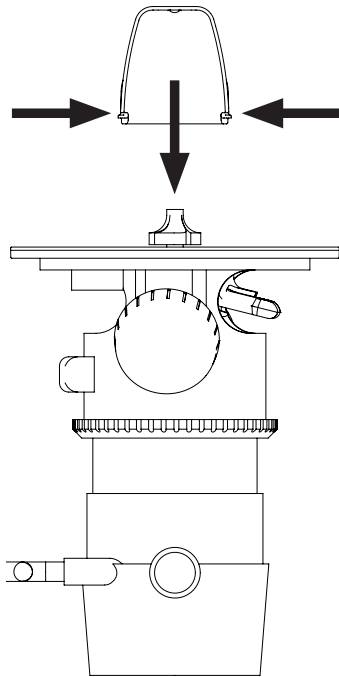

Fig. 5
- To apply the chip cover, squeeze the sides, and fit the groove of the chip cover inside the cavity at the inside rim of the base plate (Fig. 5). Since only one chip cover is used at a time, use the 1/4" hole on the cover to store unused covers on a nail or hook for later use.